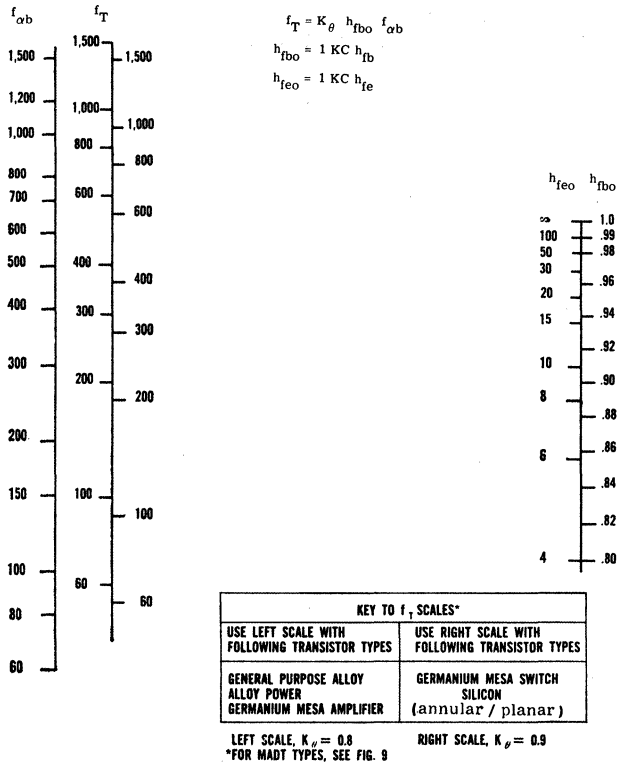
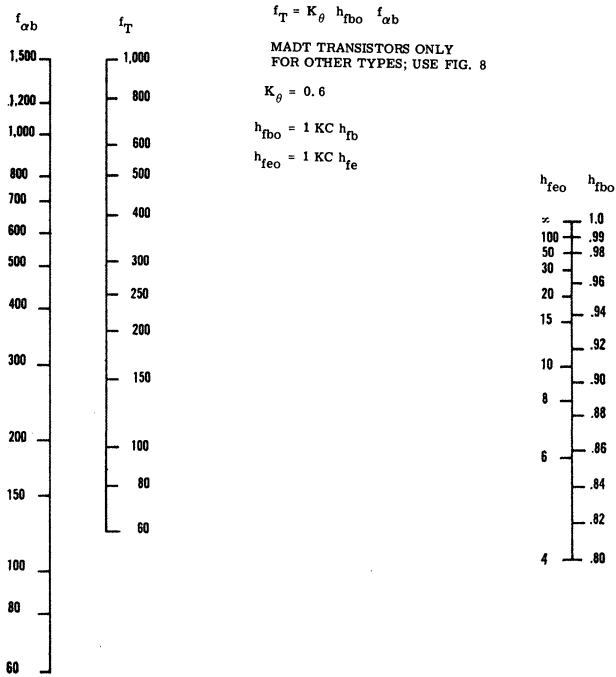

Fig. 8. This nomogram represents f_T , f_b , and either h_{fb0} or h_{feo} .
Fig. 10. Identical to Fig. 8, this nomogram is used only for MADT transistors.
- (B) If f_T is not known use Fig. 5 to find f_T if h_{fe0} and $f_{\alpha e}$ are known or Fig. 8 to find f_T if $f_{\alpha b}$ is known (Fig. 10 for MADT types).
Figure 8 is a nomogram of f_T , $f_{\alpha b}$, and either h_{fb0} or h_{fe0} . To account for variations in this relationship with different transistor types, there are two f_T
scales, with a guide to which one to use. Given: for a germanium mesa switching transistor, $f_T = 400$ mc and $h_{fb0} = 0.90$. Find: $f_{\alpha b}$. Answer: 494 mc. For MADT types, see Fig. 10.
Figure 10 is a nomogram which is identical to Fig. 8 except that it is for use with MADT transistors (see instructions for Fig. 8).